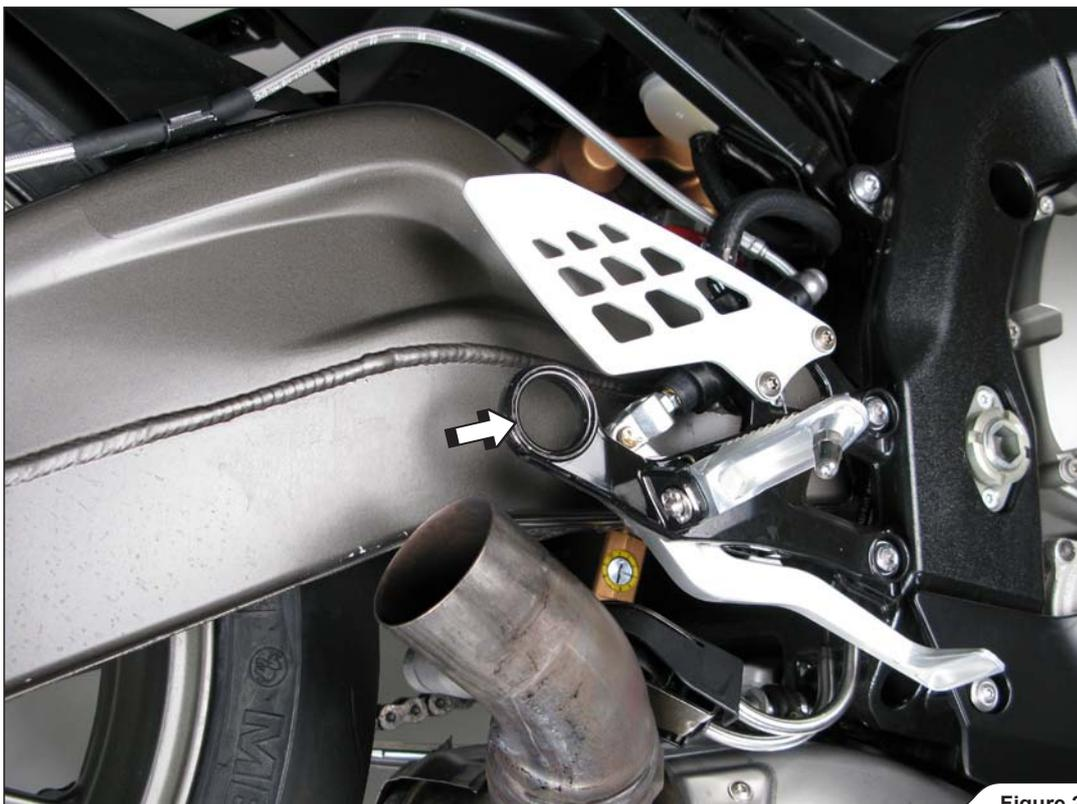

Figure 2
3. Remove the metal collar and rubber damper from the stock muffler hanging bracket (**Figure 2**).